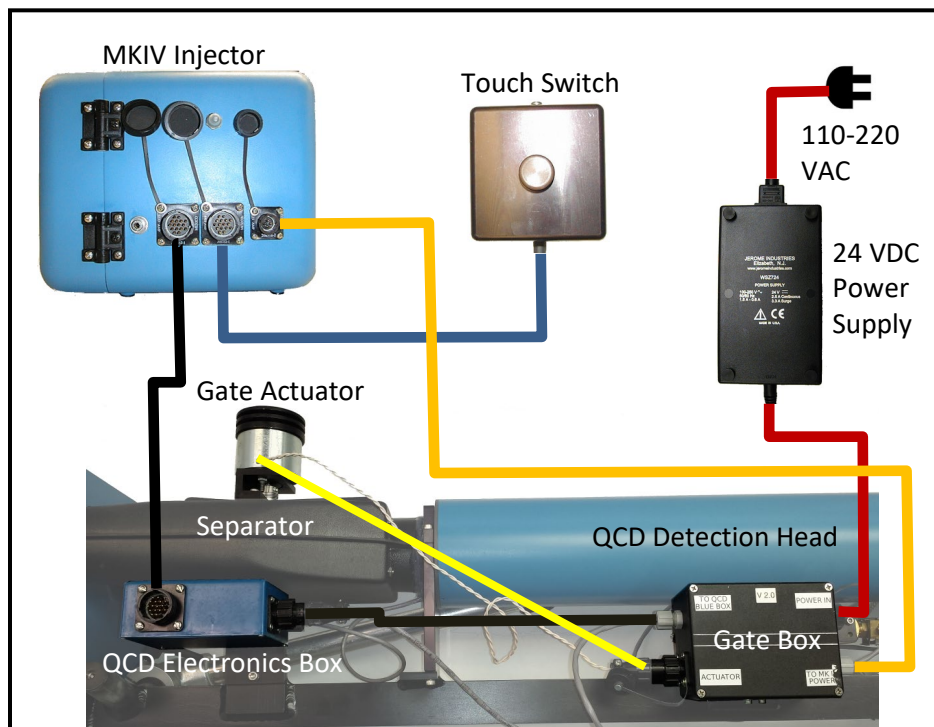

Figure 3: Cable connections for a mechanical gate QCD.
5. If you are using a QCD, connect it to the other large connector on the back of the injector (Figure 3). See (Quality Control Device \(QCD\), page 37) for more information about setting up your QCD.